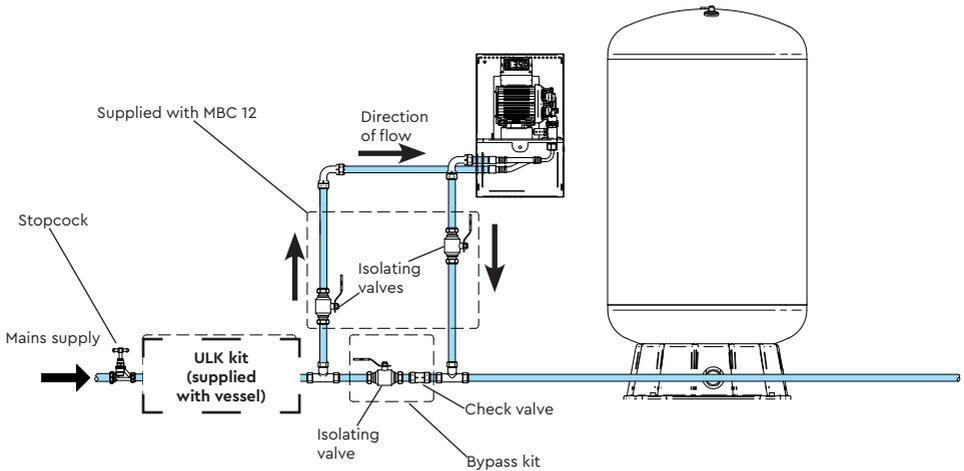

Fig. 6
- 3) Your charger will have been supplied with either a green energy lever valve and check valve to suit the main water supply size of (22, 28 or 35 mm). Having ensured the stopcock is turned off and (if installing on an existing Mainsboost system) drained it, remove a section of pipe to allow fitting of 2 tee pieces (not supplied), the lever valve and check valve (Fig. 6).
- 6) Route 15 mm feed and return from the tees inserted in the main, passing through the isolating valves supplied (Fig. 6).
- 7) Ensure grommets are fitted correctly in all case apertures to ensure the pipework **does not** vibrate against the case (Fig. 6).
- 8) Install the supplied ULK kit as per the instructions supplied with it and in the location shown in figure 6.